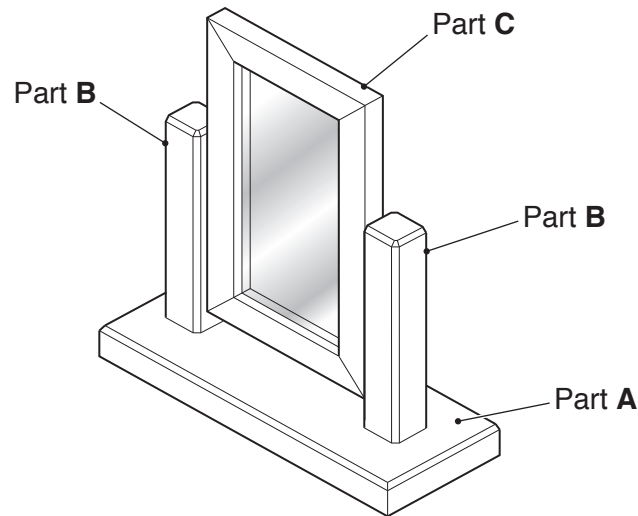

Fig. 3.1
- 3 Fig. 3.1 shows a table top mirror, which is to be made in a school workshop. The table top mirror is to be made from softwood and pivots to allow adjustment of the mirror.
- (a) Give **two** reasons why the softwood used in the table top mirror shown in Fig. 3.1 would be varnished. [2]